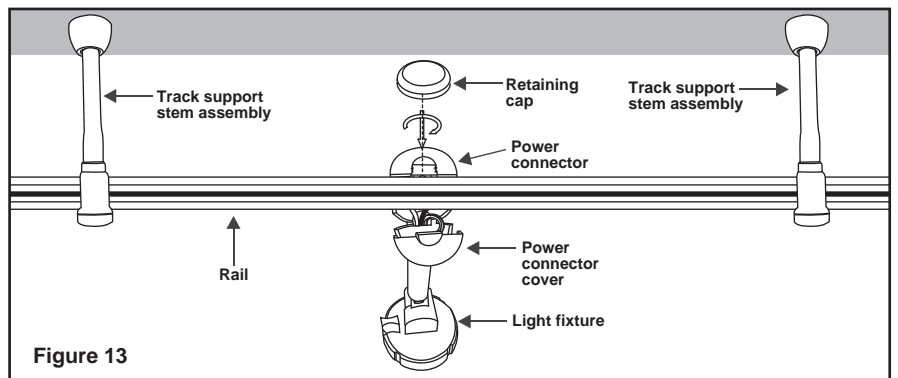

Figure 13
1. Remove the retaining cap on the power connector of the light fixture. Open the power connector cover and align the two slots of the rail to the two tabs on the power connector. Close the power connector cover and replace the retaining cap, make sure the connection is secure. (Fig. 13)